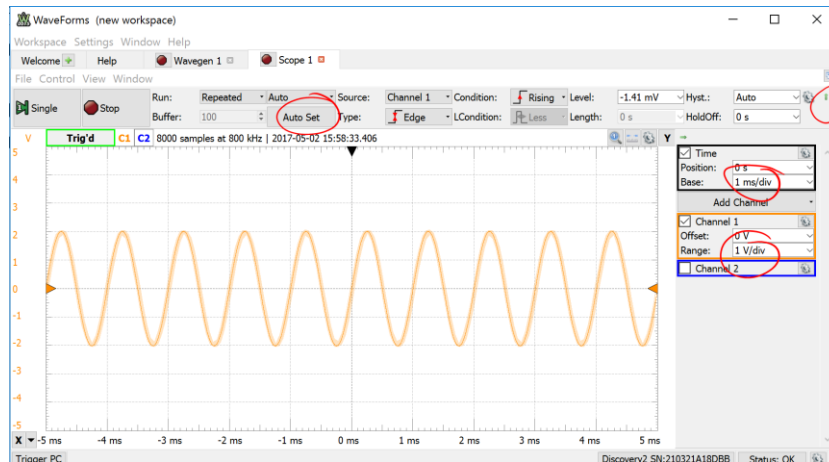

Fig 7. Oscilloscope display from WaveForms application
- Click on the Welcome tab to open up the scope window. In the scope window, make sure in the right panel under Time, the timebase is 1 ms/div, and under C1, the Offset is set to 0V and the Range is set to 1V/div. Use the scope channel 1 to confirm the peak-to-peak voltage. Also, to avoid distractions initially, uncheck the C2 box on the right to turn off Channel 2. If necessary, you can use Auto Set (click the green down arrow on the right side of display then Auto Set) to initially lock on to the signal, then change the Time Base and Range accordingly. See Figure 7.